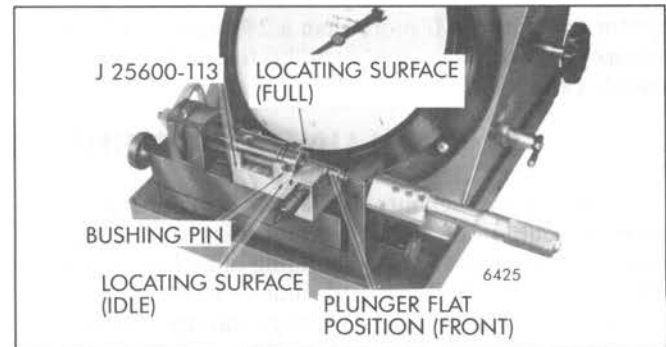

Fig. 15 Cradle Mounted on Fixture
1. Select the proper cradle for the plunger/bushing to be tested and mount on the fixture (Fig. 15).
5. Place the plunger/bushing in the cradle. Be sure the plunger flat and locating pin or slot is properly positioned (Fig. 15). To check in full-fuel position, rotate bushing until the bushing pin contacts the rear locating surface.